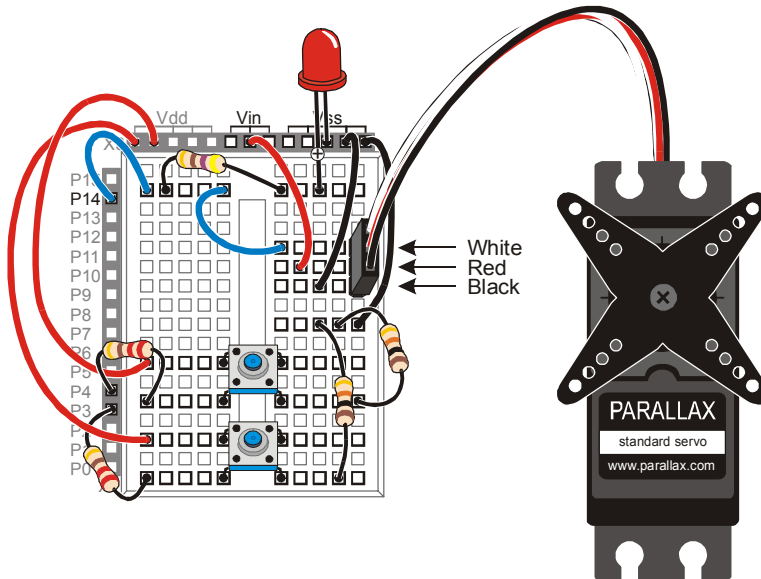

Figure 4-22
- Figure 4-22 if you are using the HomeWork Board